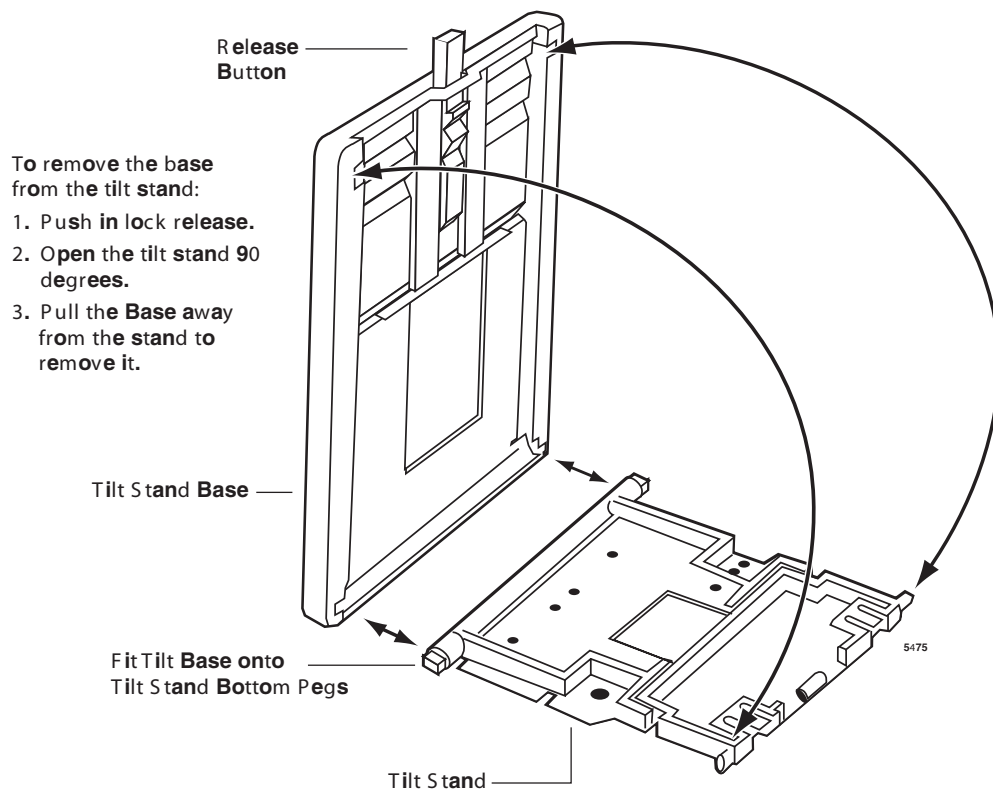

Figure 7-22 Release Adjustment Button
3. Remove Tilt Stand from Tilt Stand Base (see Figure 7-22).
6. Reinstall the Tilt Stand Base: Fit the Tilt Stand Base over the Tilt Stand so that the “bottom pegs” fit into the holder. Adjust Tilt Stand so that the “top pegs” fit into the top Tilt Stand Base holes (see Figure 7-22). Do this to both stands.
3. Remove Tilt Stand from Tilt Stand Base (see Figure 7-22.